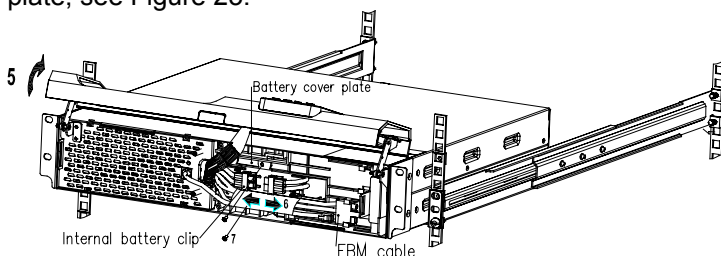

Fig. 23: Disconnecting the UPS internal batteries;
6. Disconnect the internal battery connector and EBM battery connector. If the EBM cable is not connected to an EBM, unclip the EBM cable and move it to the left out of the way, see Figure 23.
7. Remove and retain the two screws on the battery cover plate, see Figure 23.
8. Grasp an edge of the battery cover plate and pull it out gently. Remove and retain the battery cover plate. Figure 23 shows the location of the battery cover plate.
If the EBM cable isn't connected to an EBM, clip the EBM cable back into its holder on the battery cover plate. See Figure 23.